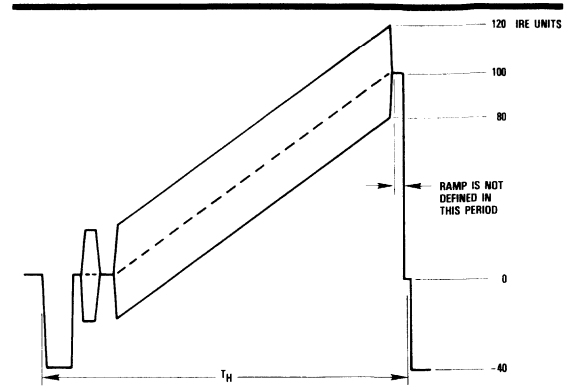
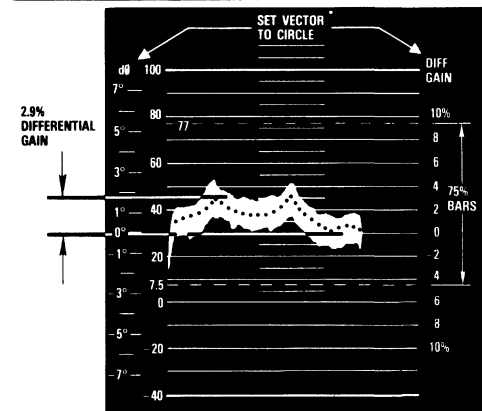
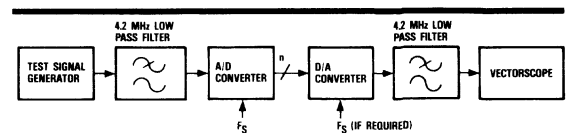
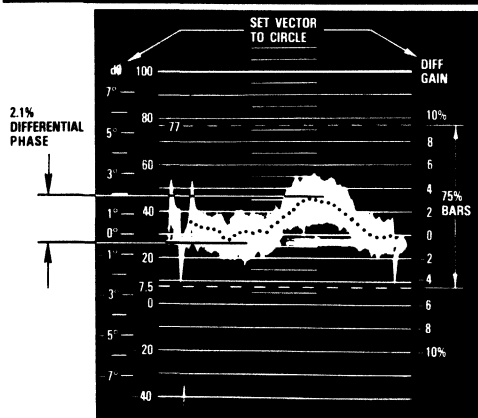

Figure 5. Modulated Ramp Test Signal
Figure 6. Differential Gain, Example Results
Figure 7. Differential Gain And Phase, Test Set-Up
Figure 8. Differential Phase, Example Results
Differential Gain is defined as "The difference between (1) the ratio of the output amplitudes of a small high-frequency sine wave signal at two stated levels of a low frequency signal on which it is superimposed and (2) unity" [1]. Distortion-free processing of a color television signal demands that the amplitude of the chrominance signal not be affected by the luminance function. This is a relevant specification for the video industry since the saturation of the color being shown is represented by the amplitude of a small signal superimposed upon another signal which determines the brightness of the color. The standard method for measuring the differential gain of a device is by using a standardized test signal, known as a modulated ramp (refer to figure 5). The output of the A/D is then reconstructed by a reference D/A and low pass filter; the resultant signal is displayed on a vectorscope which is defined in reference [2]. During DG measurements the vectorscope display will be fuzzy due to quantizing errors in the A/D and D/A. The measurement requires interpretation of the peak-to-peak curvature of the center of the waveform. Figure 6 shows a
vectorscope photo with DG testing in progress. The center line is indicated with a dashed line. There are theoretical bounds on differential gain performance described in [3]. The number specified on an A/D converter data sheet is the difference between the actual differential gain of the device and the theoretical performance. Figure 7 shows the typical test set-up that might be used in Differential Gain testing, which is described in more detail in reference [2].
Differential phase errors appear on the T.V. screen as changes in the hue of the colors (tint) as the brightness changes. Differential phase testing is very similar to differential gain testing. The equipment shown in figure 7 is identical, and the display shown in figure 8 is similar to that of figure 6. The results are analyzed in the same manner as Differential Gain, taking the center line of the fuzzy line and finding its maximum peak-to-peak deviation. Reference [2] also describes differential phase testing of A/D converters.